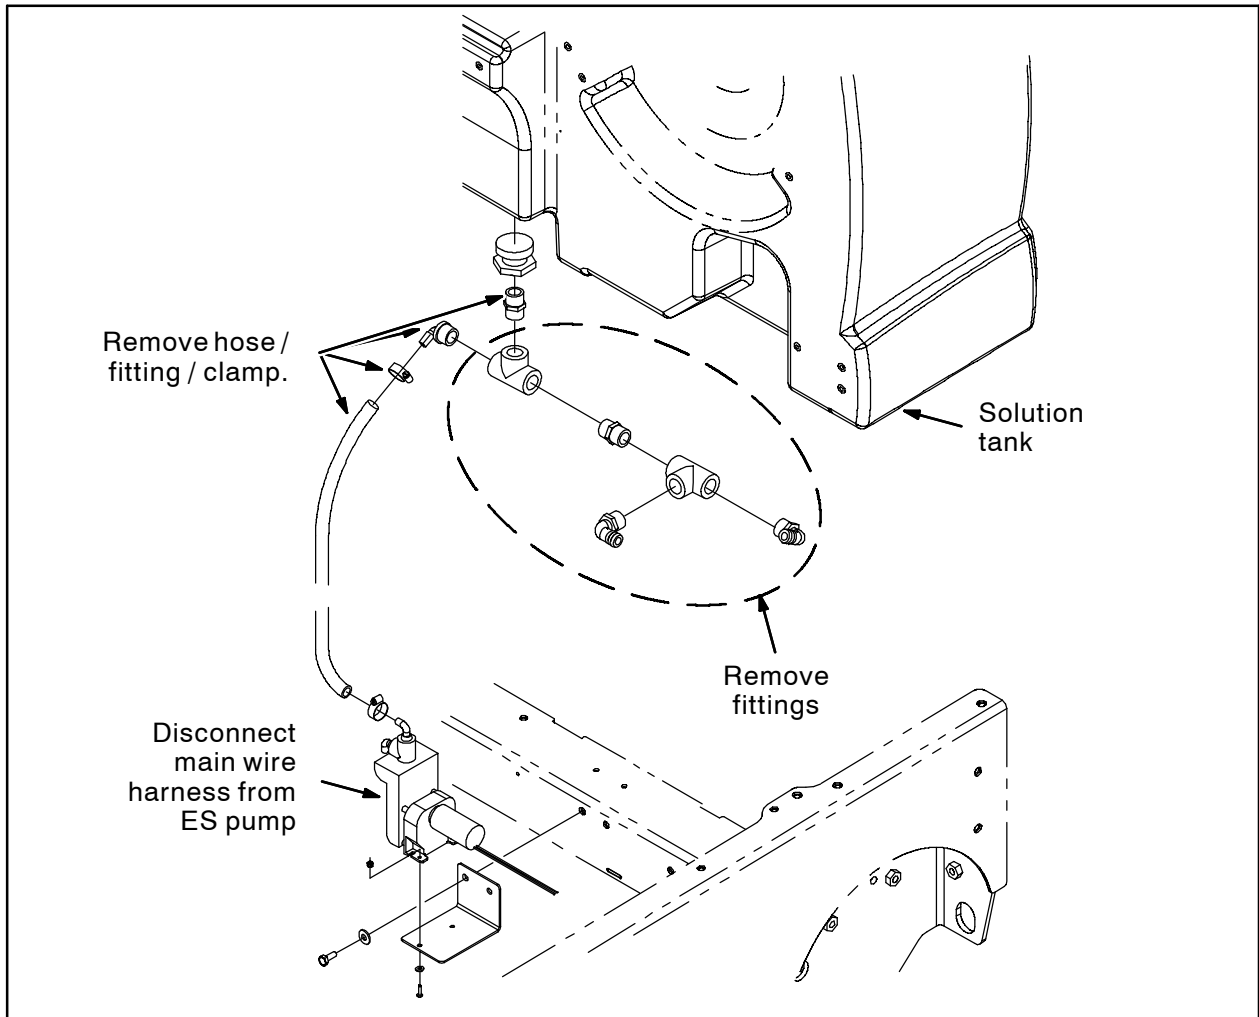

FIG. 5
9. Disconnect ES system hoses / fittings from the solution tank and ES pump. Discard removed hoses / fittings. Refer to Fig. 5.